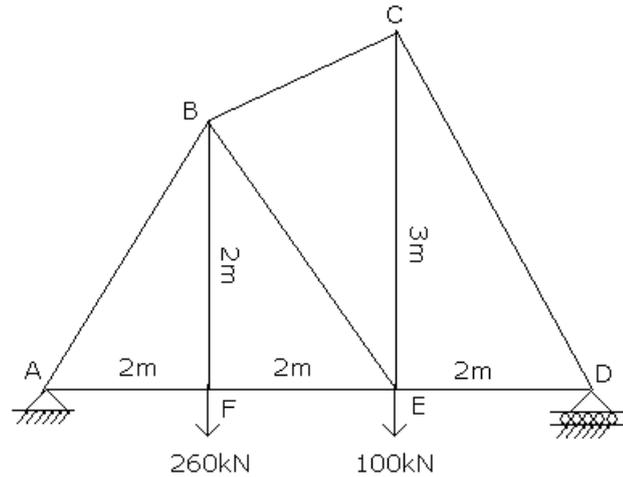

Figure 5
5. Analyse the frame shown in Figure 5. [16]